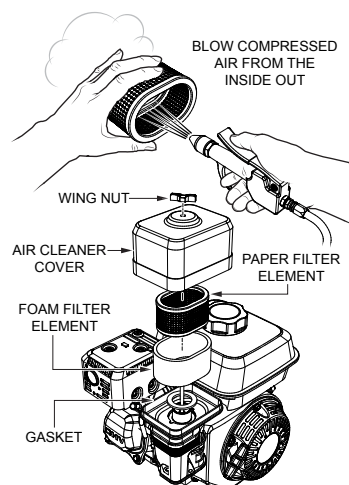

Figure 22. Engine Air Filter
The Honda GX120UT2SM12 engine is equipped with a replaceable, high-density paper air cleaner element. See (Figure 22) for air cleaner components.
4. Blow compressed air through the air cleaner cover as shown in (Figure 22). Clean inside of air filter cover with warm, soapy water or nonflammable solvent. Rinse and dry thoroughly.